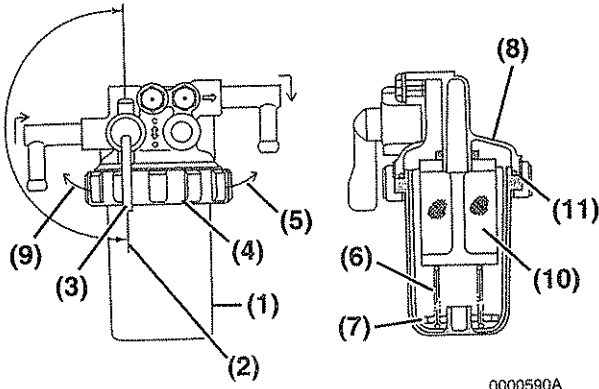

Figure 7
1. Position an approved container under the fuel filter/water separator (**Figure 7, (1)**) to collect the contaminants.
2. Close (**Figure 7, (2)**) the fuel cock (**Figure 7, (3)**).
3. Turn the retaining ring (**Figure 7, (4)**) to the left (**Figure 7, (9)**).
4. Carefully remove the cup (**Figure 7, (1)**). Remove the retaining spring (**Figure 7, (6)**) and float (**Figure 7, (7)**) from the cup. Pour the fuel into an approved container and dispose of waste properly. Hold the bottom of the cup with a shop towel to prevent the fuel from dripping. Wipe up any spills immediately.
6. Inspect the condition of the mesh filter (**Figure 7, (10)**). Clean the mesh filter if necessary.
7. Inspect the condition of the O-ring (**Figure 7, (11)**). Replace the O-ring if necessary.
8. Put the float (**Figure 7, (7)**) and retaining spring (**Figure 7, (6)**) inside the cup.
9. Reinstall the cup to the mounting flange (**Figure 7, (8)**) and turn the retaining ring (**Figure 7, (4)**) to the right (**Figure 7, (5)**). hand-tighten only.
10. Open the fuel cock (**Figure 7, (3)**).